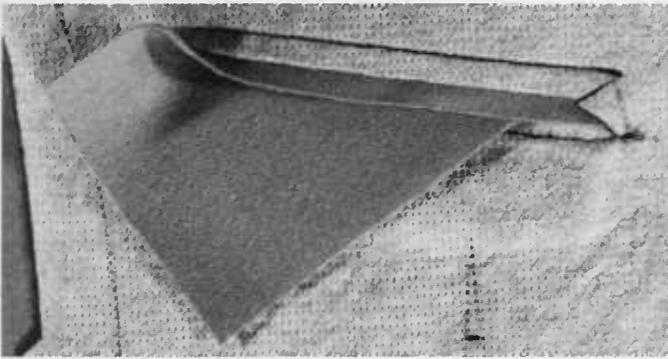

figure 41
- Pull the welt opening insert through the opening to the wrong side (*figure 41*). Press welt opening insert seam upward, being careful not to press welt.